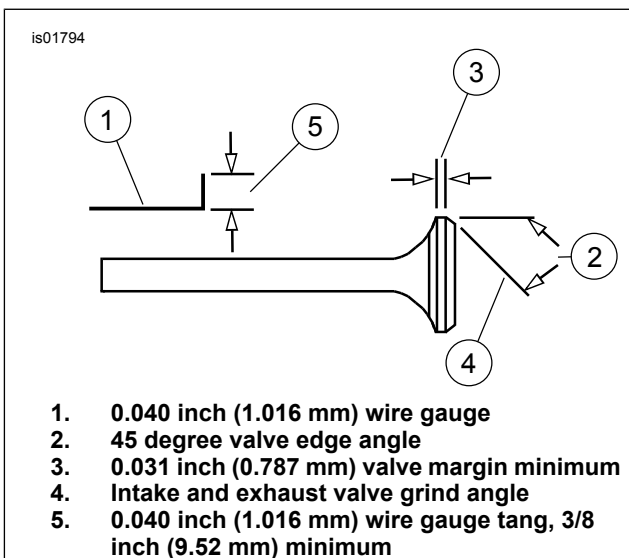

Figure 3. Beveling Valve Heads
See Figure 3. The 0.040 inch (1.016 mm) wire gauge used in the next step should have a 3/8 inch (9.52 mm) minimum tang in order to check for proper valve clearance.
12. Rotate engine so that both valves of the front cylinder are partially open. Shine a light through the exhaust port and look through the spark plug hole. Turn engine, if required, to the point where the exhaust and intake valve heads cross. See Figure 3. There should be 0.040 inch (1.016 mm) clearance between the two valve heads. A wire gauge may be used to make this measurement. If insufficient clearance exists on 883cc engines, the edges of both the intake and exhaust valves may be ground at a 45 degree angle as shown in Figure 3.